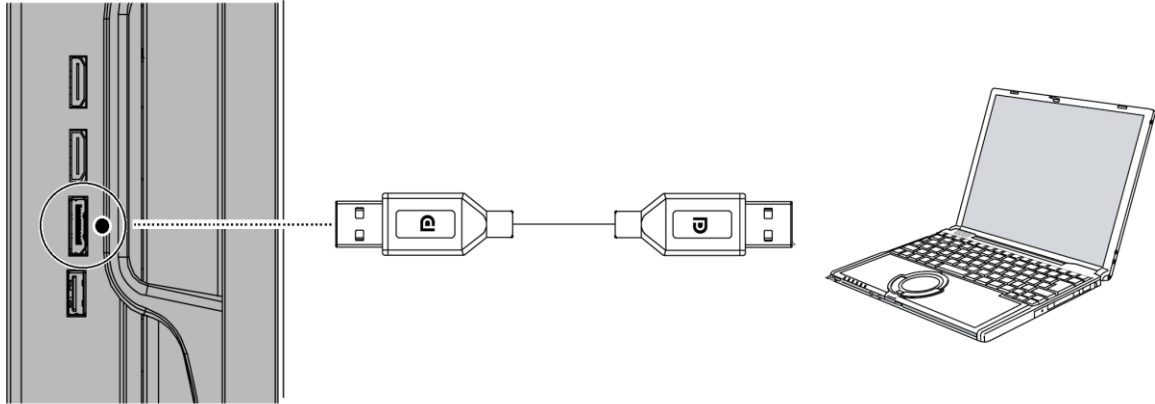
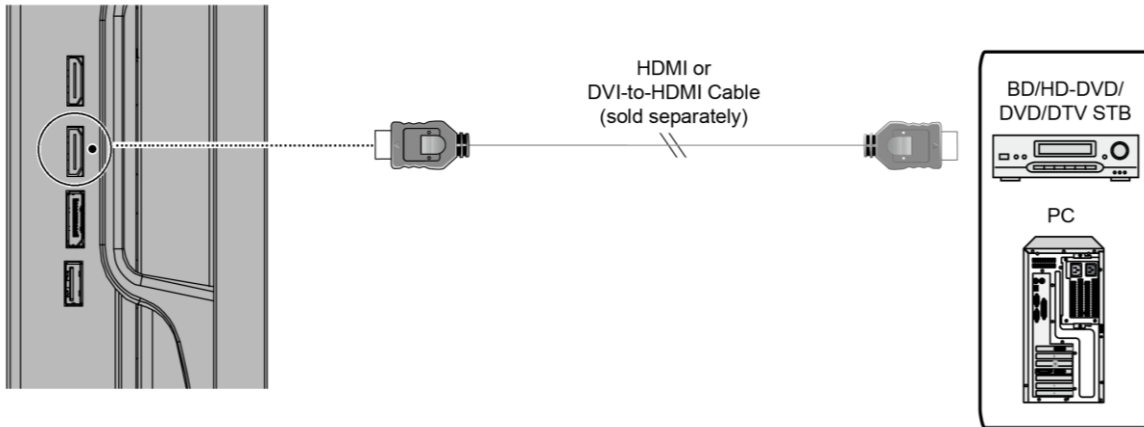
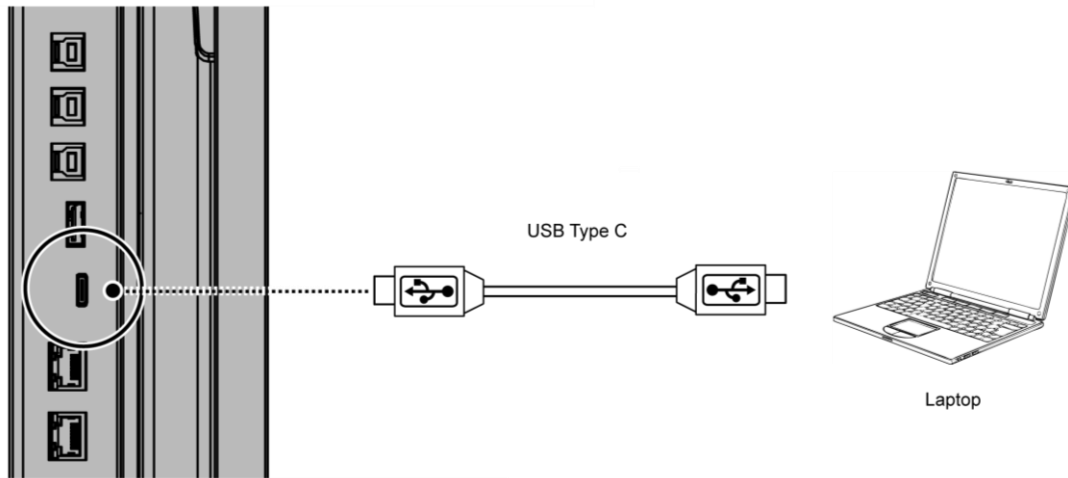

Figure 3-4. DisplayPort Source Connection
Figure 3-5. HDMI Source Connections
Figure 3-6. Type C Source Connections
DisplayPort Source Connection: See Figure 3-4.
HDMI Source Connections: See Figure 3-5.
Connect a personal laptop to the Type C input as shown in Figure 3-6.
- The video output from the computer is connected to a video input on the display. See Figure 3-4, Figure 3-5 or Figure 3-6.